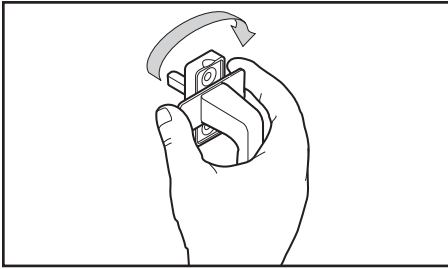

Figure 2-3. How to uncover the screw holes
- 1.1. Slightly pull the screw cover of the Euro-Handle base towards you and rotate it 90° to uncover the screw holes. See fig. 2-3.